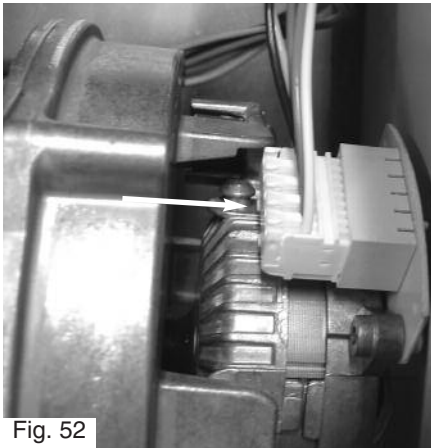

Fig. 52
6. Unplug the gas valve and fan connectors (Figs. 52 and 53);